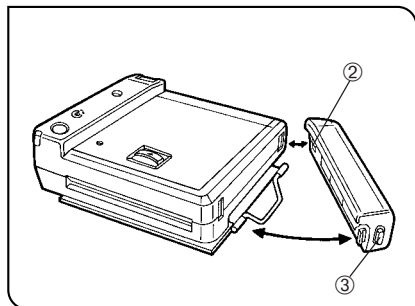

Fig. 32
5. Attach the battery unit to the camera back. First insert the tab ② on the side with the contact into its slot as shown in Fig. 32, then push the side with the release button ③ into place. (Functions such as film ejection will not work if the contact side of the battery unit is not properly seated.)